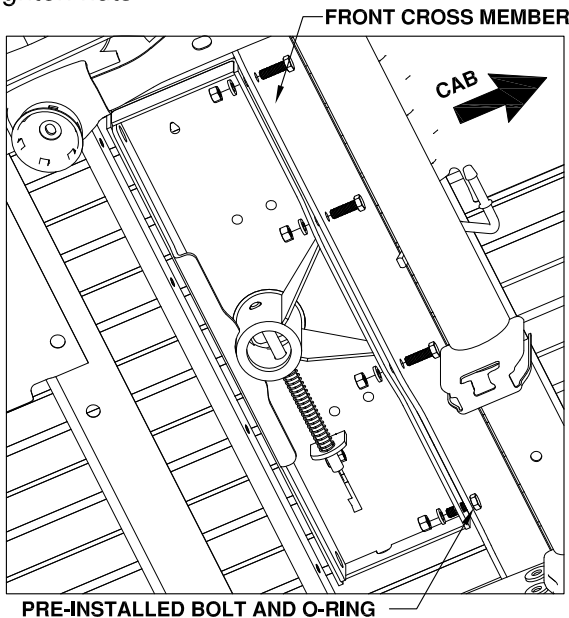

Figure B10: View under the center section looking from in front of the axle on the passenger side.
5. **Attach the front cross member to the center.** Slide the front cross member back against the center section so that the bolt installed previously in the front cross member goes into the center section hole directly across from it. Line up the rest of the holes and attach the two members with $\frac{1}{2}$ " X $1\frac{1}{2}$ " long bolts, lock washers, and nuts as shown in Figure B10. Hand tighten nuts.